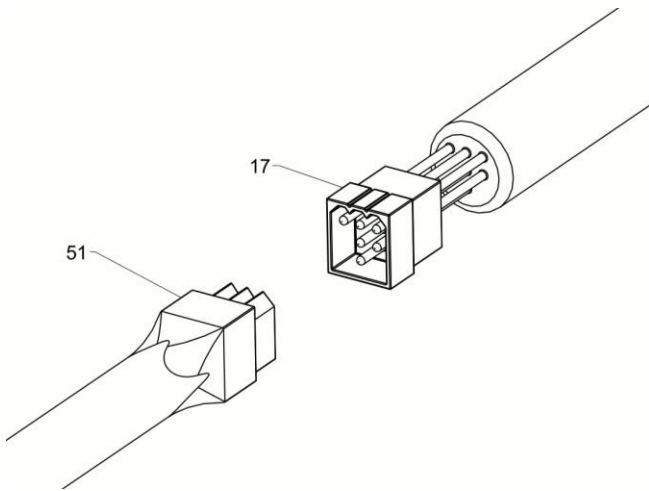

Figure 8. Switch Box Control Connection G10755
- Connect the Switch Box Control (51) connector to the mating Vehicle Side Wiring Harness (17) connector as shown in Figure 8.